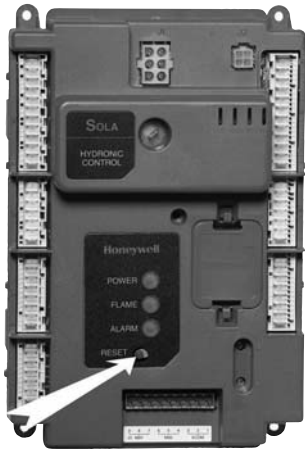

Figure 40. Reset Button on Controller
- At the end of the verification process, you must press the Reset button on the front of the controller. See Figure 40. You have to do this within 30 seconds, or the verification will be cancelled. To make it easy to reach the Reset button, open the door on the front of the boiler and slide out the control panel **before** beginning the verification.